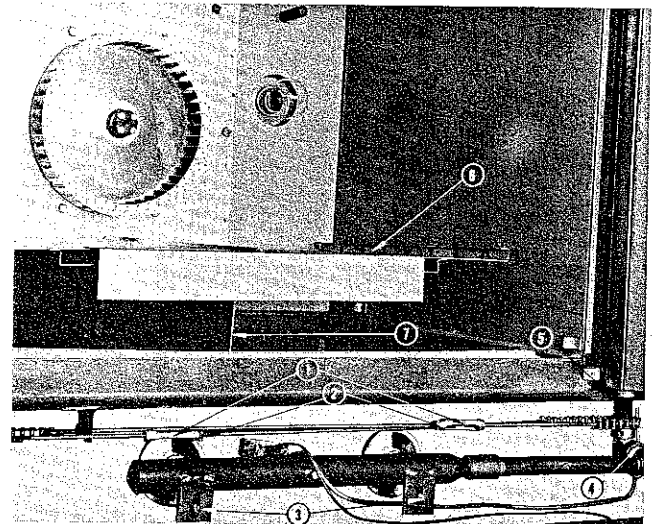

FIG. 10
- 1. The FA-100 & GZL-10 features side-mounted doors which operate simultaneously. The doors are properly adjusted when the appliance leaves the factory. However, should field adjustment be necessary, two adjustable turnbuckles (Figure 10, No. 1) are located immediately behind the combustion compartment cover (CAUTION: THE TURNBUCKLES ARE LOCATED IN A HEAT ZONE). When the doors are in proper adjustment, the door without the handle should be fully closed when the door with the handle has 1/2" to 1" (12 to 25mm) of travel left before being fully closed. Proper adjustment is made by turning first one turnbuckle, then the other, until the doors are adjusted as described above.
CAUTION: If one turnbuckle is adjusted, the other must be adjusted to prevent undue strain on the door operating mechanism. When the proper adjustment has been made, be sure to tighten the turnbuckle lock nuts (Figure 10, No. 2). The turnbuckles should be tight but not over-tight.
(1) Remove manifold bolts (Figure 10, No. 3) disconnect manifold union (Figure 10, No. 4) and slide manifold away from oven just far enough to permit the removal of the orifices with the proper size wrench.
1. Disconnect manifold union (Figure 10, No. 4).
2. Remove manifold bolts (Figure 10, No. 3).
4. Remove deflector by removing attaching screws (Figure 10, No. 6).
5. Remove burner divider (Figure 10, No. 7).